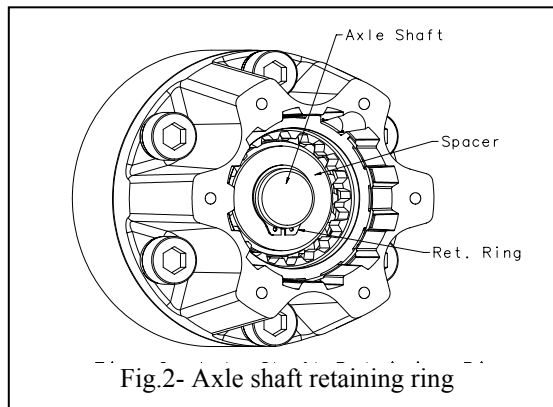

Fig.2- Axle shaft retaining ring
4. Install spacer (if required) and **new** retaining ring in groove on axle shaft. Push axle outward from behind the wheel, if necessary. **IMPORTANT:** Verify that the retaining ring is properly seated (See Fig.2).